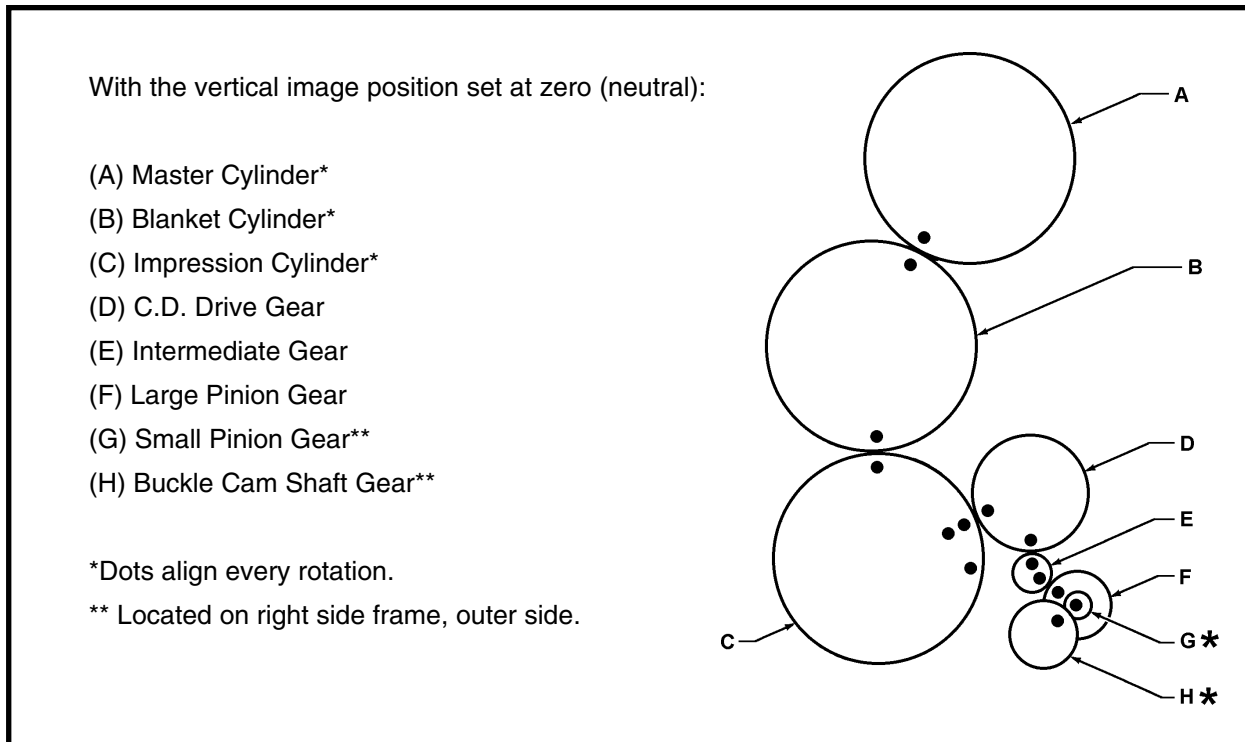

Figure 87 - Machine Timing Sequence
1. The machine must be correctly timed during the assembly procedure. The timing marks come into time every fifth revolution (see Figure 87).